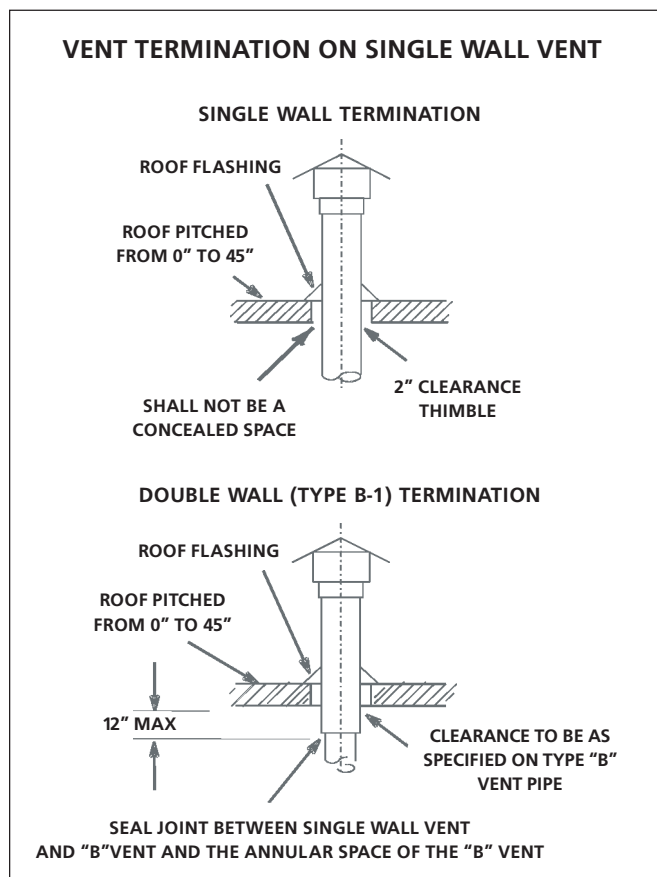
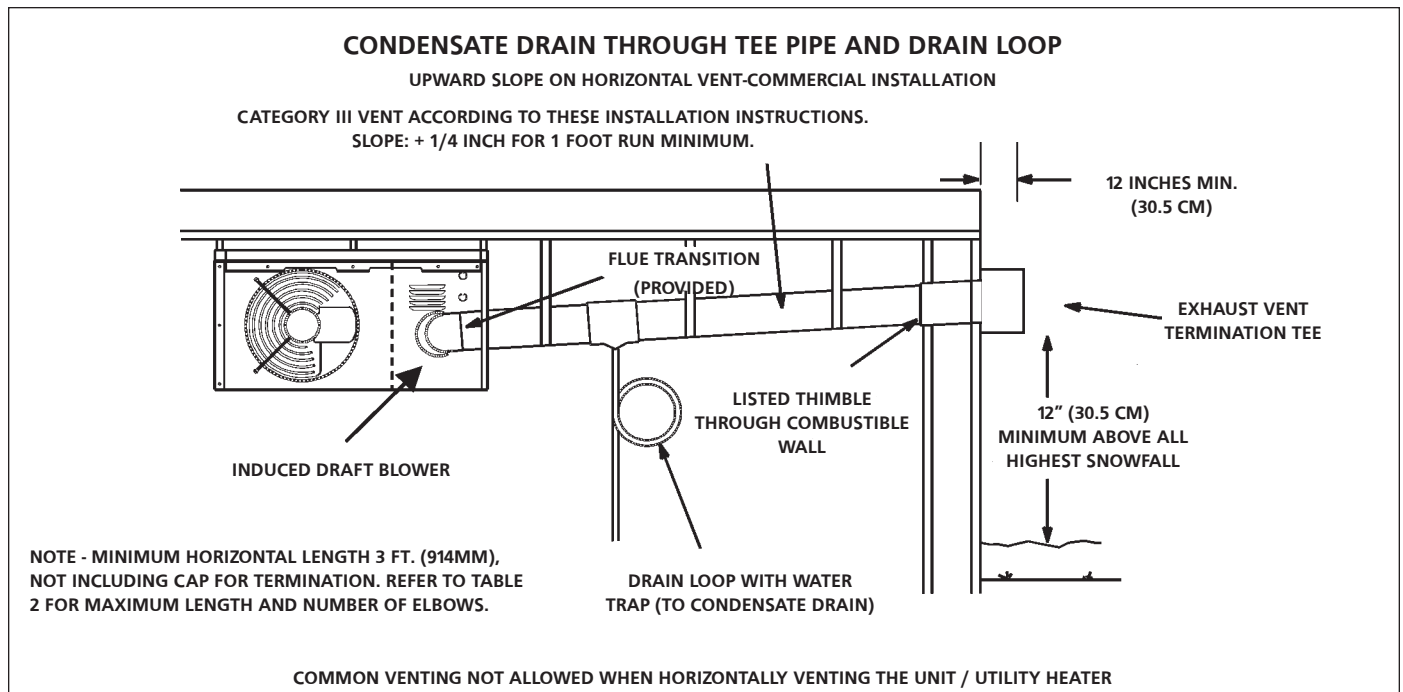

FIGURE 2
FIGURE 3
1. HSU unit heaters are to be used with NFPA- or ANSI-approved chimneys, U.L. listed type B-1 gas vents, single wall metal pipe, or listed chimney lining system for gas venting where applicable, as well as the modifications and limitations listed in **figure 2**. Seal single wall vent material according to the section **A - General Recommendations and Requirements**.
8. When termination is routed through an exterior combustible wall the vent must be supported using a listed clearance thimble. Seal the connection between the single wall and double wall pipes and the annular space of the double wall pipe as shown in figure 2. Inside edge of vent termination tee must be at least 12 inches from outside wall as shown in figure 3.
Venting A - General Recommendations and Requirements and **C - Horizontal Venting General** and **D - Horizontal Venting - Commercial**. Refer to **figure 3**.